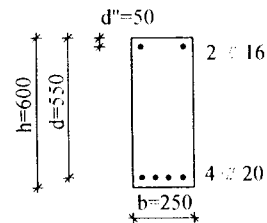

Fig.1
1. For the reinforced concrete rectangular section shown in Fig.1, calculate the following: